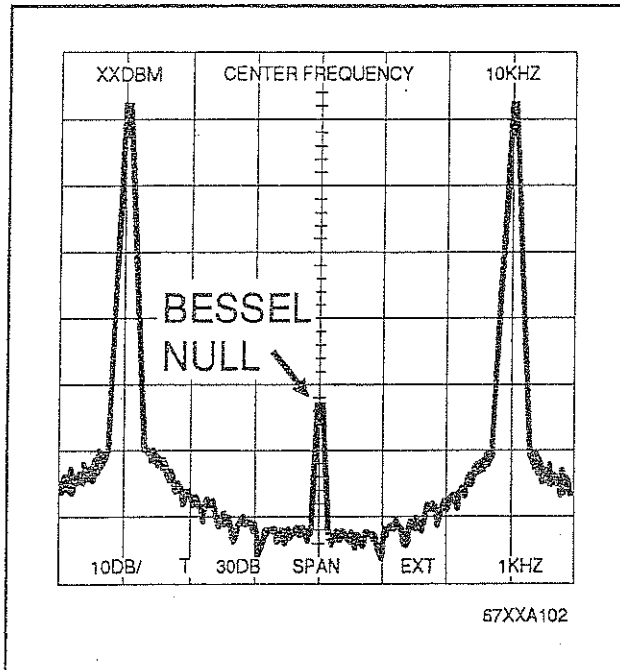

Figure 3-17. Typical Spectrum Analyzer Display of Bessel Null on FM Modulation Waveform
5. While observing the Spectrum Analyzer display, press the 67XXA DECR and INCR keys to adjust the waveform displayed so that the center portion (Bessel null) is at minimum amplitude (see Figure 3-17).